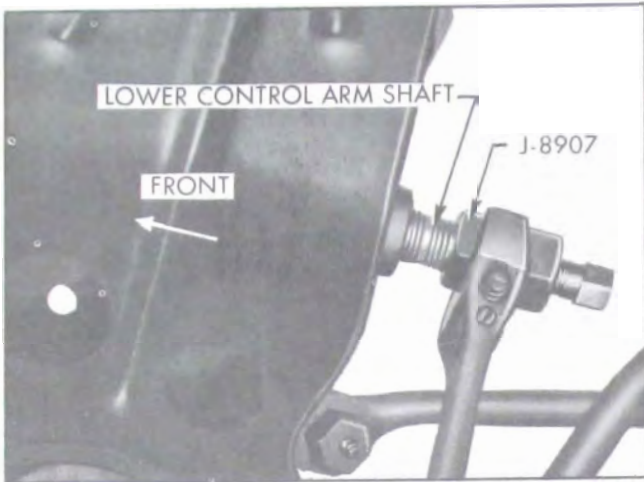

Figure 7-16—Removing Lower Control Arm Shaft
3. Turn Installer & Remover J-8907 clockwise to remove shaft through front of cross member. When shaft threads are free of threads in front suspension cross member, loosen lock bolt and remove Installer & Remover J-8907. Remove lower control arm shaft. See Figure 7-16.